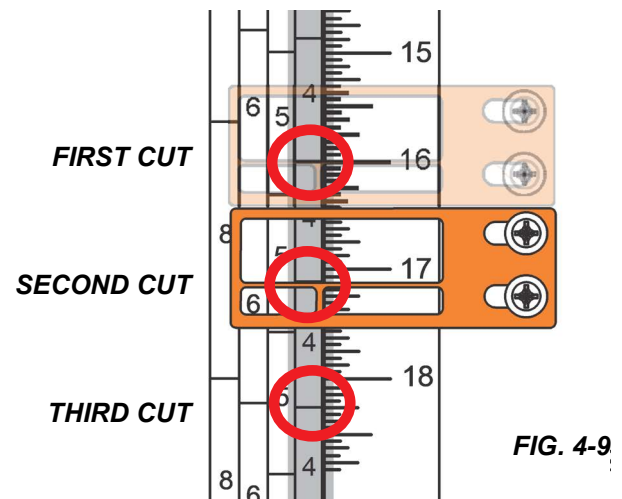

FIG. 4-9
2. Adjust the quarter scale so a 4/4 mark (highlighted gray in Fig. 4-9) is aligned with the line on the indicator.